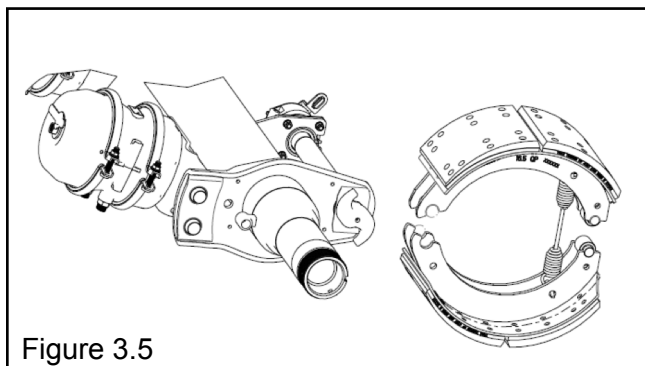

Figure 3.5
3. Lift up the top brake shoe and disengage it from the anchor pin then remove brake shoe assembly (still connected by the return spring) from the brake spider (Figure 3.5).